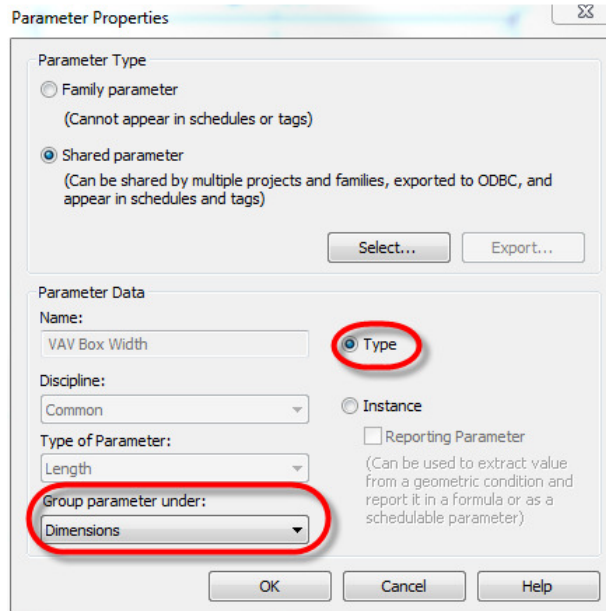
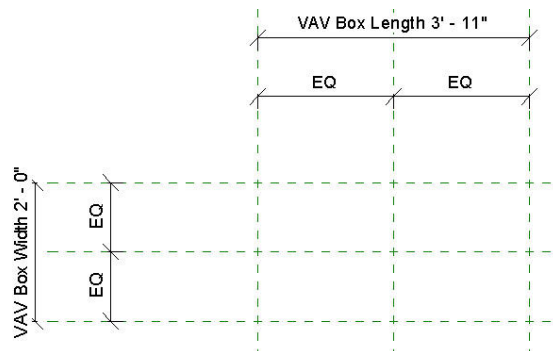

Figure 17. Finishing the Width parameter.
Figure 18. The length and width parameters assigned.
18. Finish up the first parameter by setting the remaining values according to those shown in Figure 17, then click **OK**.
21. Select **VAV Box Length** from the list of parameters and click **OK**. Finish the settings again with those shown in Figure 17. Your screen should look similar to figure 18.